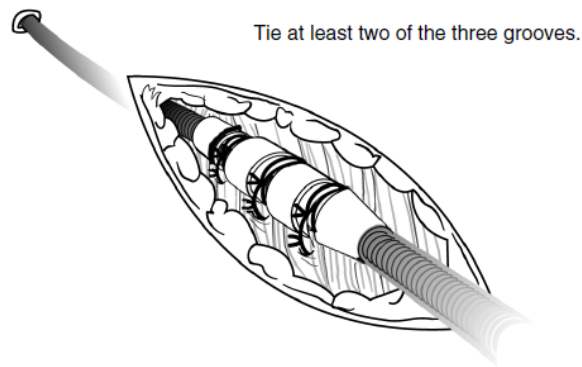

Figure 19
reconfirm pacing, sensing threshold & lead impedance. A small deviation in threshold & lead impedance values indicates that the lead is well anchored. The lead may now be secured with suture sleeve & connected to the pacemaker (Refer *Figure 19*).
- a. Peel back the introducer sheath and slide the suture sleeve deep into the tissue (*figure 19*).